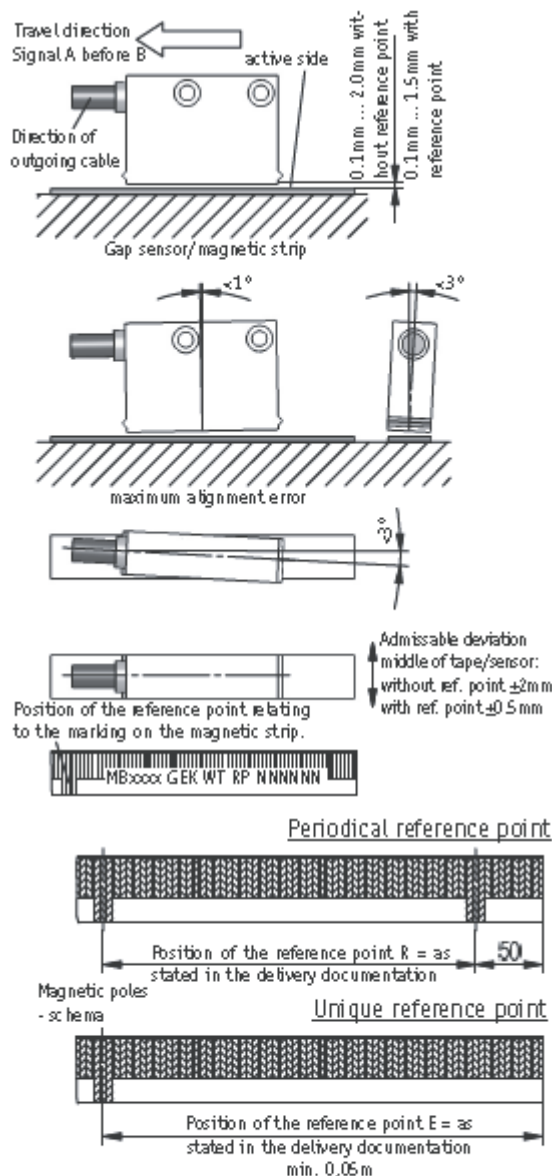

Fig. 6: Definition of the counting direction with magnetic strip and assemblage sensor/magnetic ring, gap measure, tolerances
- Observe the correct alignment with regard to the counting direction (fig. 6). This does not apply if the counting direction can be reversed in the electronic interpretation.
- Tolerance for the gap between magnetic sensor and magnetic strip not observed over the **total** travel distance. Sensor touches strip (see fig. 6)
- Sensor's active side not mounted towards the magnetic strip (see fig. 6). The active side is marked by the label "Bandseite" (strip side).
- Sensor has not been aligned according to fig. 6.